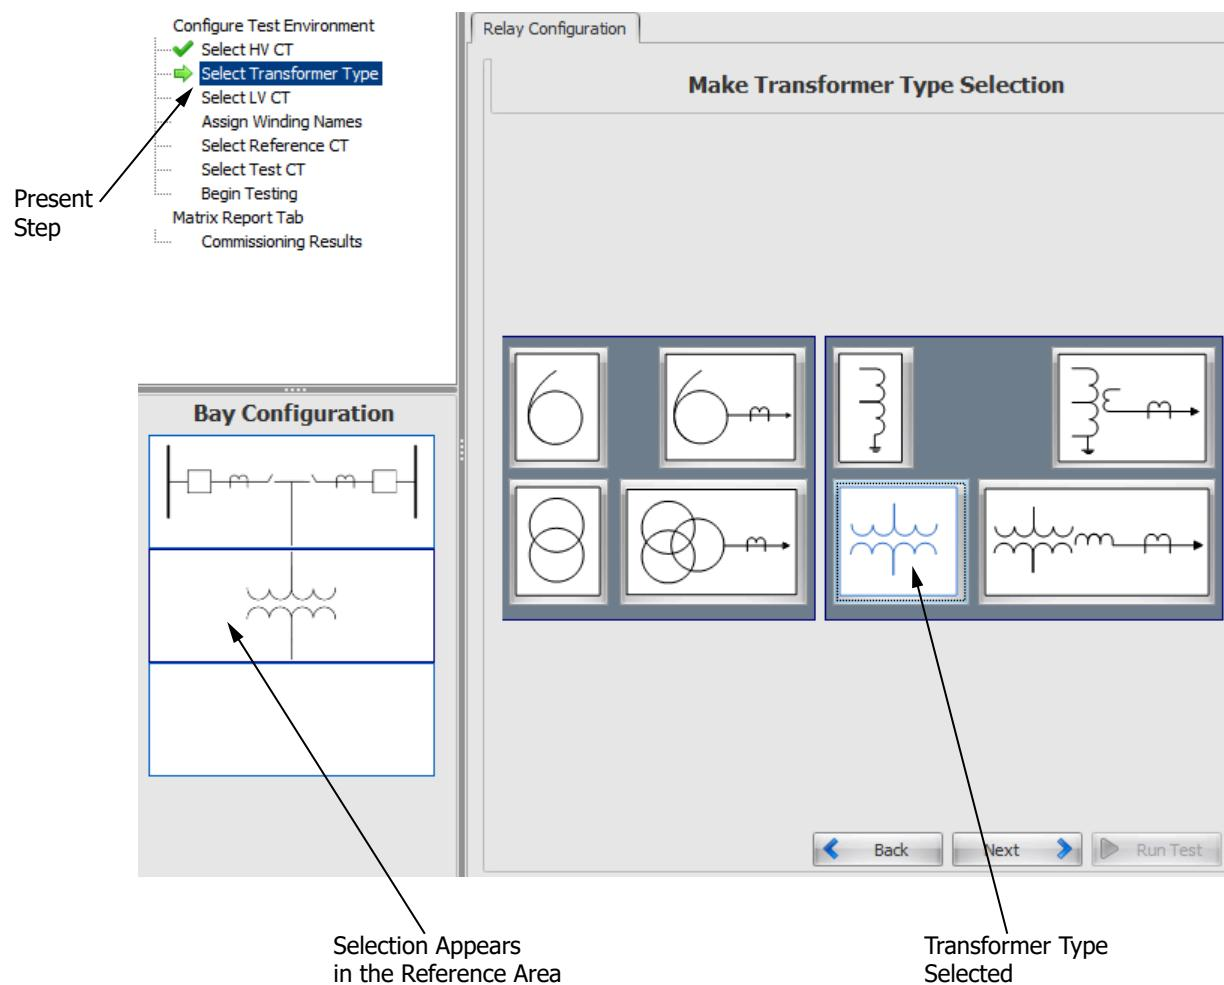

Figure 7.28 Transformer Type Selection
Step 4. Click the **Next** button to move to the screen displayed in *Figure 7.28*. Select the appropriate transformer type, and notice that the selection displays in the Reference Area. Also, notice that **Select Transformer Type** is highlighted in the Test Step Area. If you want to select a different HV CT arrangement, click the **Previous** button to go to the previous screen.